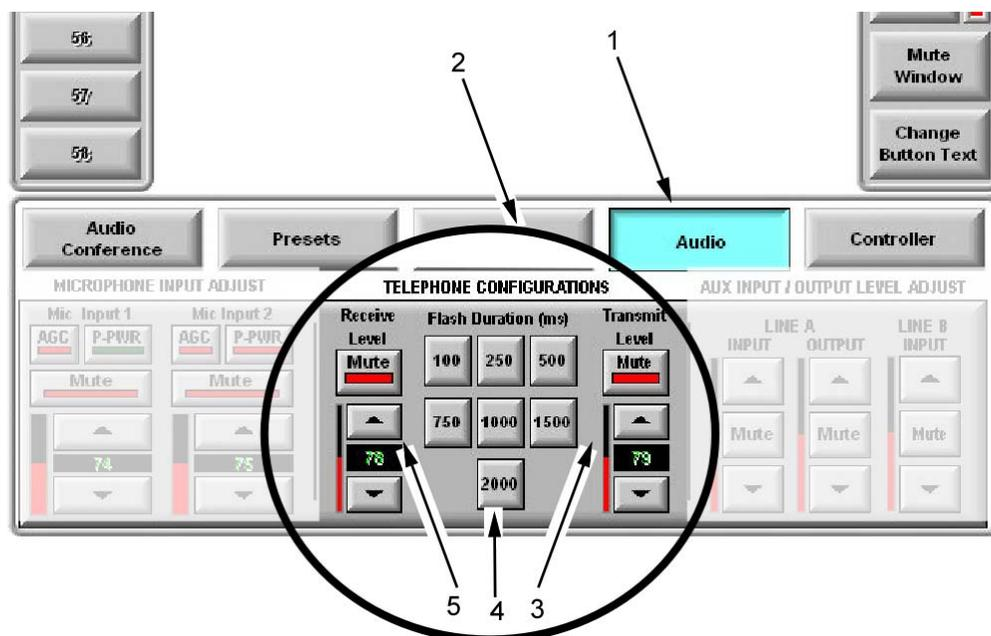

Figure 10. Audio Control Panel.
2. Select the **Audio** button (see Figure 10, Item 1) to access the Audio Control Panel.
3. Adjust the telephone configuration using the Telephone Configuration controls in the center of the Audio Display panel (Figure 10, Item 2).
- Set the level for the incoming audio by pressing and holding the **Receive Level** arrow button (Figure 10, Item 5) to the desired level. Press to engage the **Mute** button located below the Receive Level to suppress the audio input. Press again to disengage.
- Set the level for the outgoing audio by pressing and holding the **Transmit Level** arrow button (Figure 10, Item 3) to the desired level. Press to engage the **Mute** button located below the **Receive Level** to suppress the audio output level. Press again to disengage.
- Set the Flash duration by pressing and releasing the desired Flash Duration button (Figure 10, Item 4). The default flash duration is 500 ms and should only be changed if necessary.